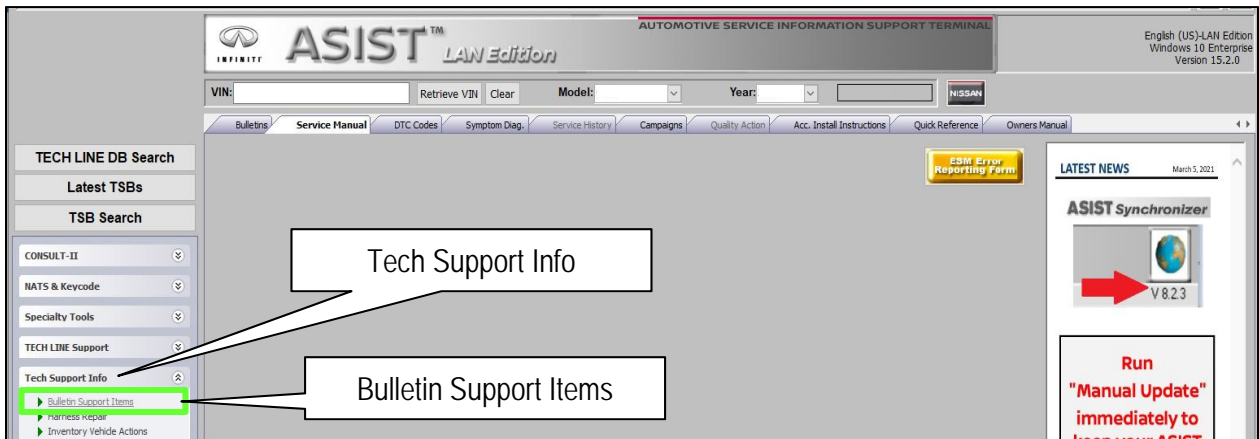
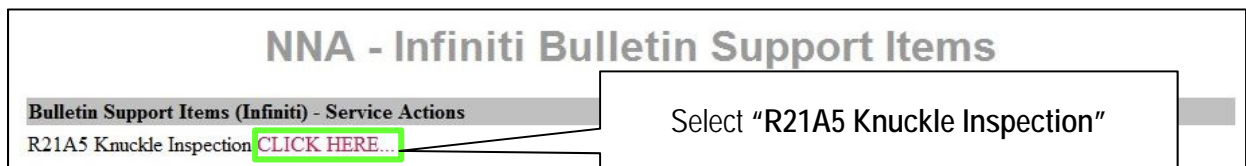

Figure 86
Figure 87
55. Open the ASIST form found at **ASIST > Tech Support Info > Bulletin Support Items > R21A5 Knuckle Inspection** (see Figure 86 and Figure 87).